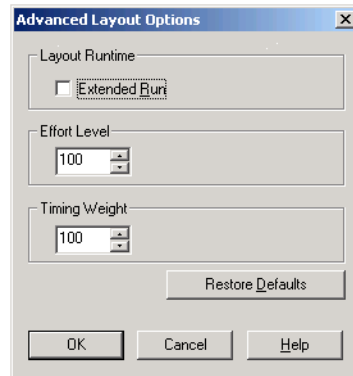

Figure 7-24. Advanced Layout Options (SX, SX-A, and eX)
3. **Set your Advanced Layout options (Optional).** Click the *Advanced* button in the Layout dialog box. This displays the Advanced Layout Options dialog box, as shown in Figure 7-24.